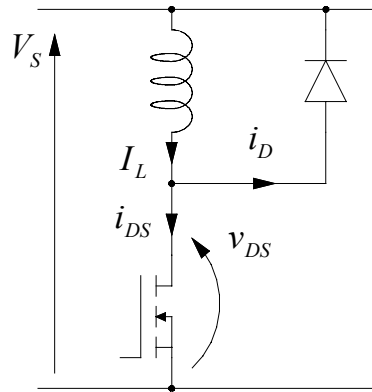

Figure 1 Inductive load switched by a transistor
1. (a) The circuit in Figure 1 shows a transistor switching an inductive load which carries a current I_L that can be assumed to be constant. The transistor is switched on and off regularly with a period T and duty-cycle, δ . Sketch the waveforms of the voltage across the transistor and the current through it over one cycle of operation. From this diagram, derive an equation for the average power loss in the transistor.
- 1) (a) The circuit in Figure 1 shows a transistor switching an inductive load which carries a current I_L that can be assumed to be constant. The transistor is switched on and off regularly with a period T and duty-cycle, δ . Sketch the waveforms of the voltage across the transistor and the current through it over one cycle of operation. From this diagram, derive an equation for the average power loss in the transistor.